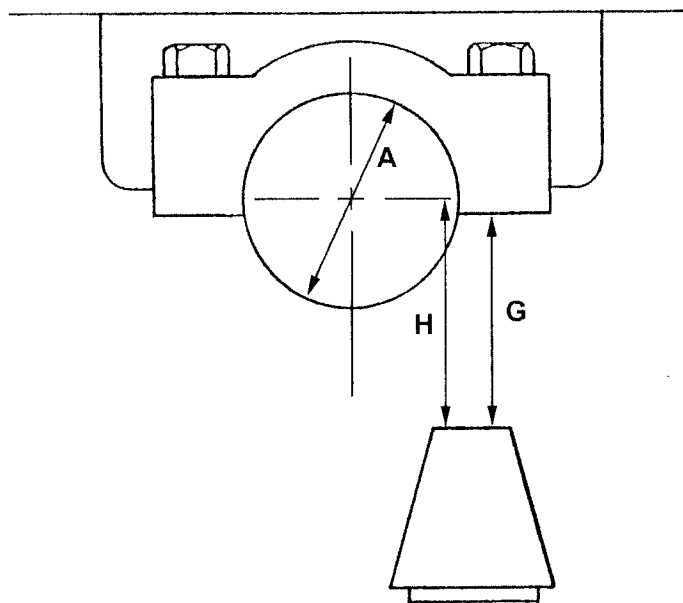

FIGURE 7
13. Subtract the Indicator reading from the dimension of the Setting Gage used in step 11 above (2.000, 3.000, or 4.000). Note, this result is not exactly the pinion depth - it is the "G" dimension in Figure 7.
14. Actual pinion depth is "H" in figure 7. Calculate H by adding G and I.